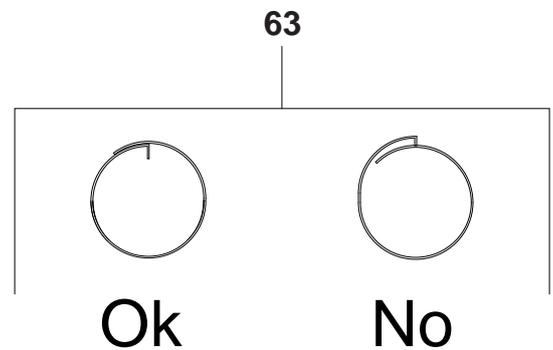

Fig. 1.1
1.02) Clean the cartridge **pos.63** thoroughly, make sure there are no breakages and fit back in place (pay attention, as per **fig.1.1**).